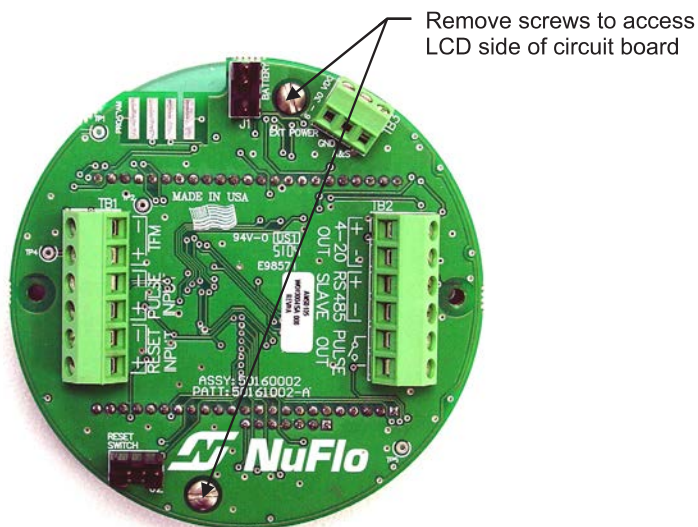

Figure 6.5—Disassembly of circuit board/keypad assembly
7. Remove the two #4-40 × 5/16" screws fastening the circuit assembly to the keypad assembly (Figure 6.5, page 94).
4. Remove the two #4-40 × 5/16" screws fastening the circuit assembly to the keypad (*Figure 6.5, page 94*).